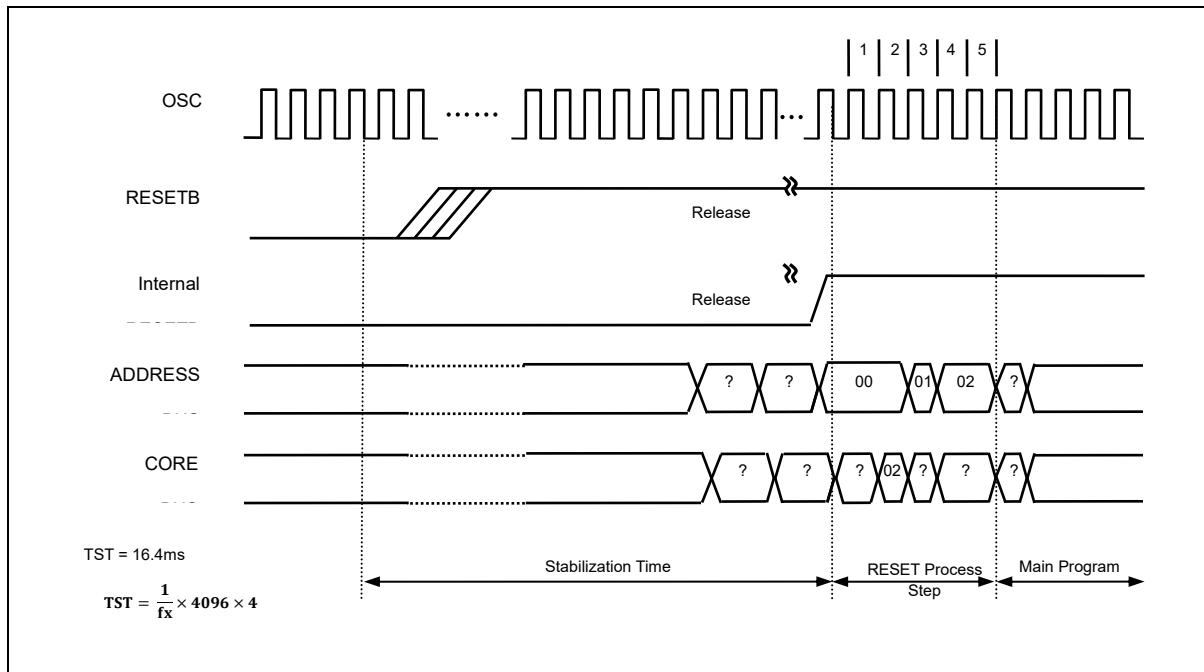
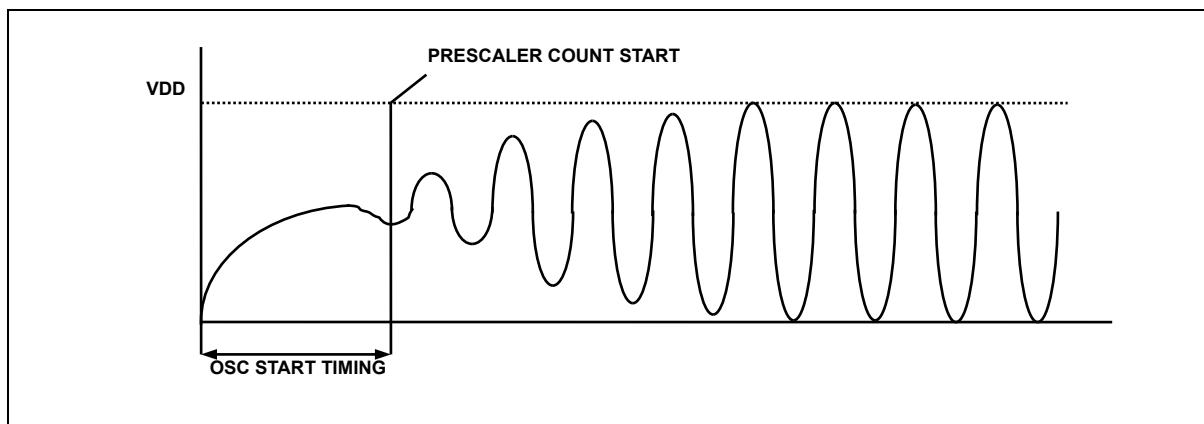

Figure 85. Timing Diagram after RESET
Figure 86. Oscillator Generating Waveform Example
- As shown in Figure 85 and Figure 86, the stable generating time is not included in the start-up time.